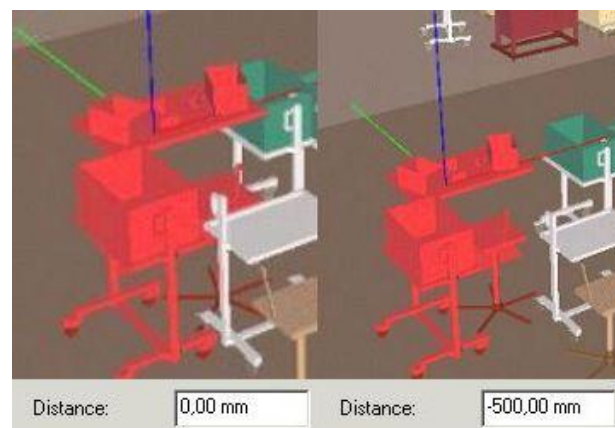

Figure 50: Example: Translating X-Axis, Relative Coordinate System
- 4) Using Reset you can reset the *Distance* value to zero. Press the *Close* button to close the dialog. Please refer to the Figure 50.